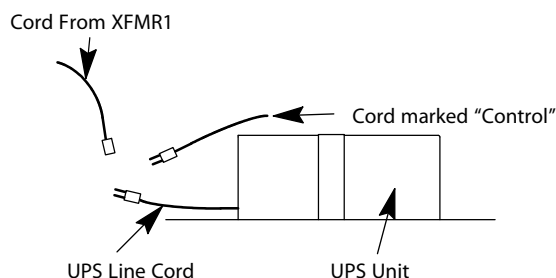

Figure 2 - UPS Unit Connections
5. On jobs with battery lowering, verify the following connections. See Figure 2.